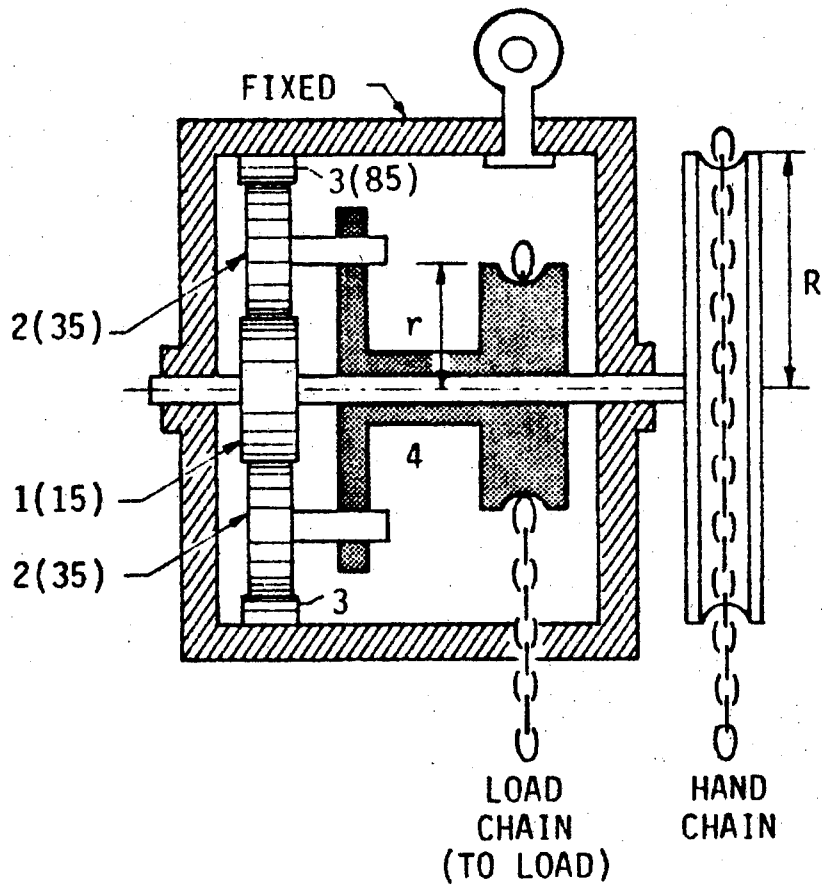

Figure 4
4. Figure 4 shows an epicyclic hoist in which the carrier 4 is integral with a sprocket wheel that carries the load chain. The sun gear 1 is keyed to a sprocket wheel that carries the hand chain. The number of teeth on each gear is shown in brackets.